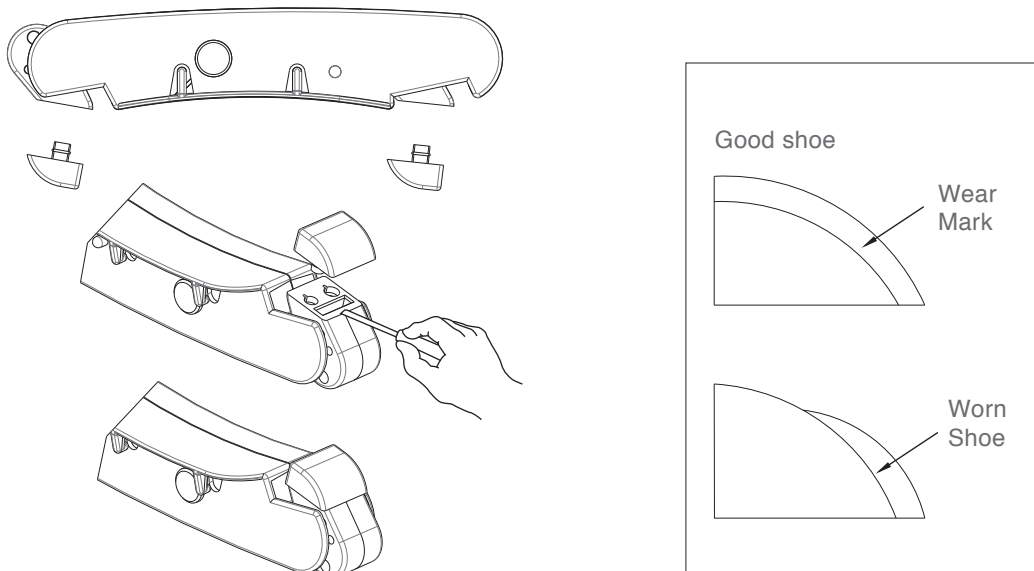
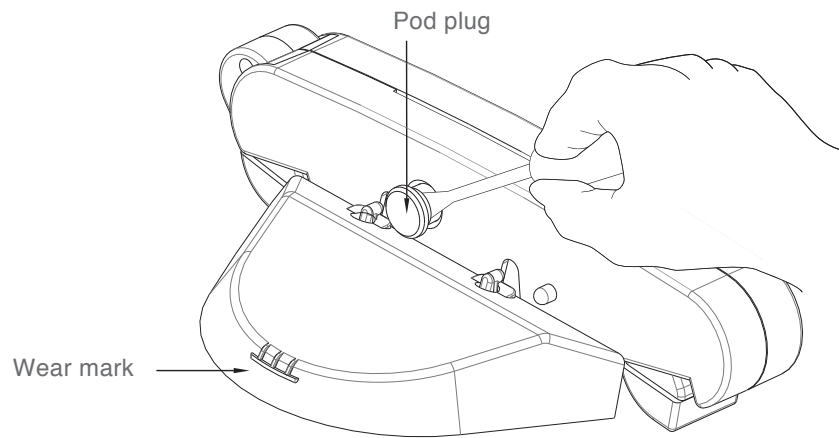

Fig. 11
Fig. 12
The shoes and wings have wear indicators on their sides and should be checked occasionally to determine if they need replacing. The shoe wear indicator is a line on the side of the shoe that appears as a difference in texture. When this texture difference is no longer visible at the bottom of the shoe when viewed from either side, the shoes must be changed (see Fig. 11). Also on the side, the wing wear indicator is a horizontal line which has three vertical lines above it. When you can no longer see the horizontal line, the wings must be changed (see Fig. 12 on page 8).
- B. Insert screwdriver between foot and shoe on one of the pods (see Fig. 11).
- A. Using a screwdriver, remove the plugs from both pods (see Fig. 12).